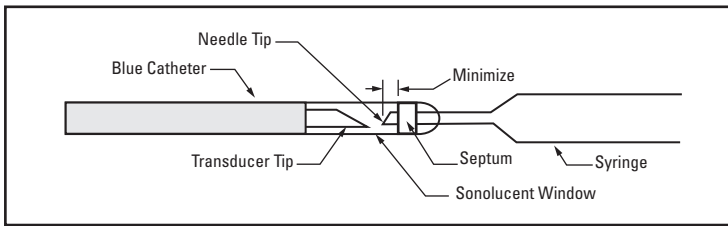

Figure 1.
2. Insert the supplied needle (26 gauge, non-coring) or Fluid Dock™ into the tip of the catheter. The needle or Fluid Dock should be inserted through the center of the self-sealing septum (the white seal at the distal tip of the catheter). If using the supplied needle, keep the needle or Fluid Dock aligned with the catheter, taking care to avoid puncturing the sonolucent window with the needle. Insert the needle only enough so that the tip clears the septum and becomes visible on the other side of the septum (See Figure 1). **DO NOT TOUCH THE TRANSDUCER WITH THE NEEDLE.**